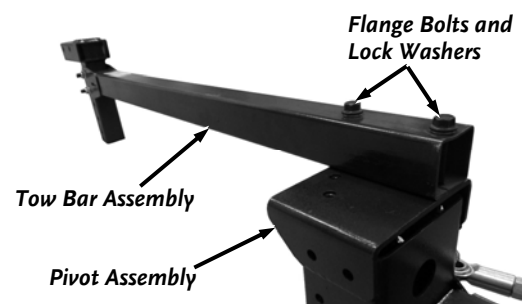

Figure 3
1. Position the Tow Bar Assembly onto the Pivot Assembly and secure with two Flange Bolts and Lock Washers using a 9/16" Wrench (**Figure 3**).